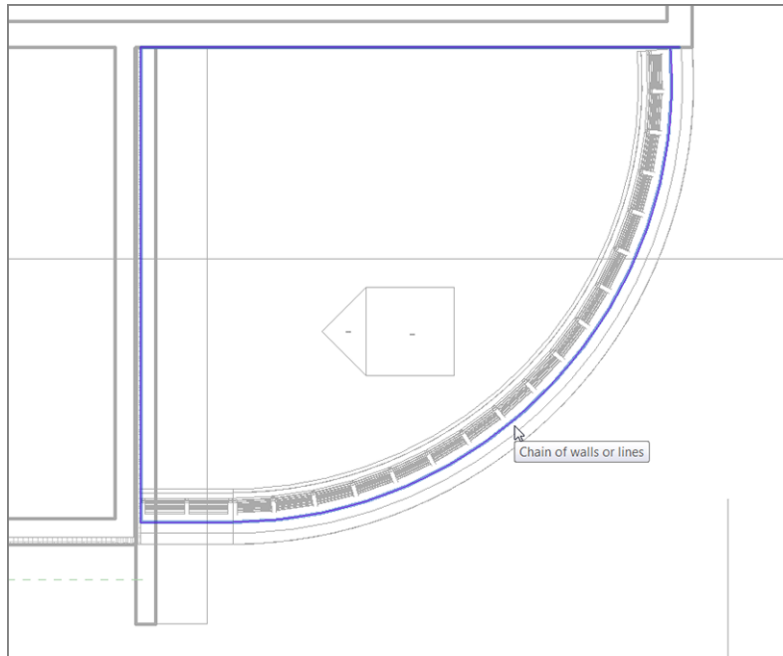

FIGURE 16.53: The roof footprint
10. Clean up any overlapping corners. Your sketch should look like Figure 16.53.